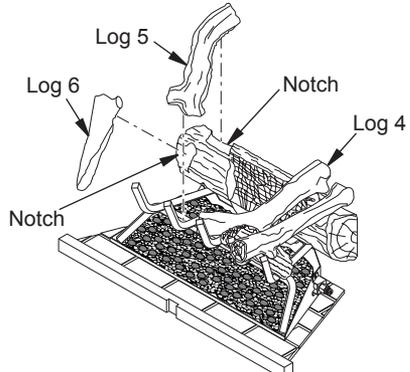

**Figure 25 - Installing Logs 1 and 2**
1. Place small front right log (log 1) on right front of grate as shown in Figure 25.
2. Place large back log (log 2) onto grate making sure notches rest over grate as shown in Figure 25.